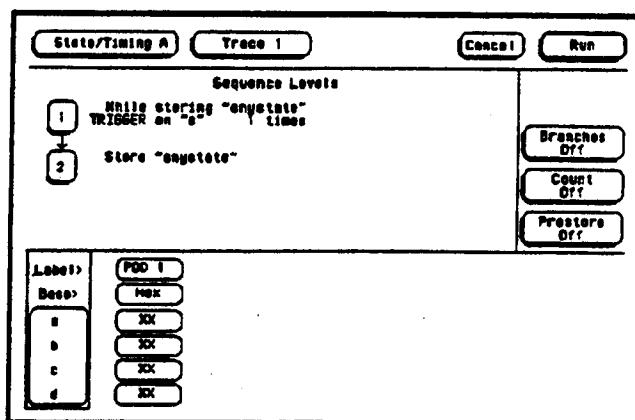

Figure 3-14. Trace Screen
5. Configure the Trace screen without sequencing levels and set Count to Off as shown in figure 3-14.
- Configure the Trace screen without sequencing levels and set Count to Off as shown in figure 3-14.